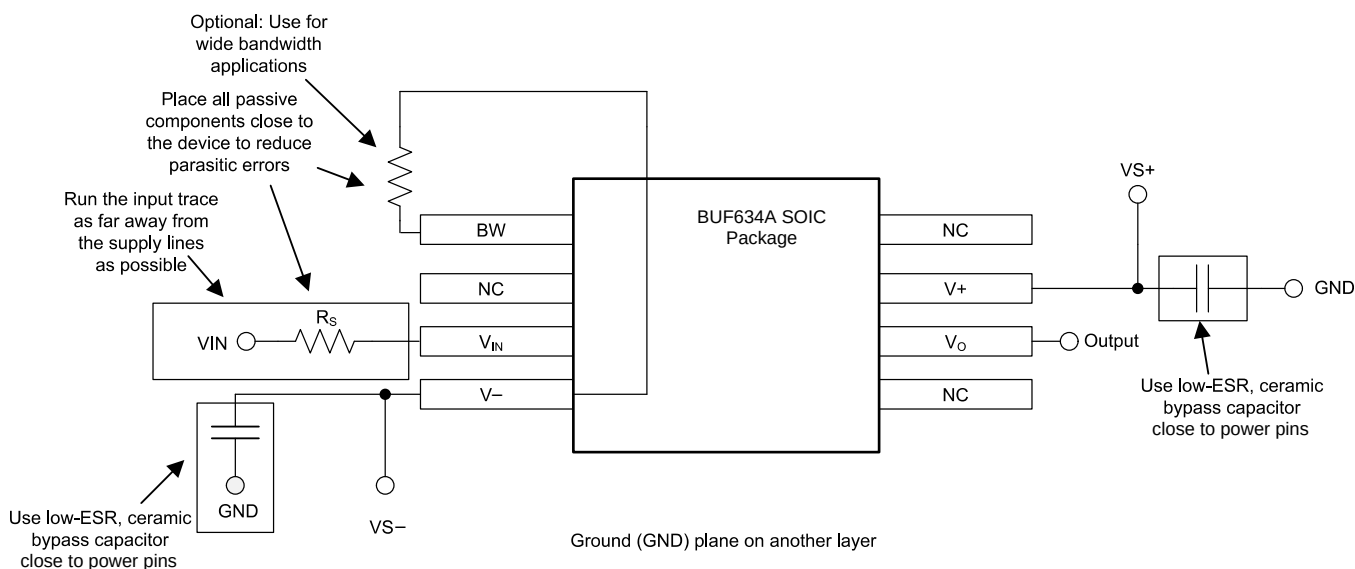

Figure 12. BUF634A Layout Example
- Place the external components as close to the device as possible, as illustrated in Figure 12.